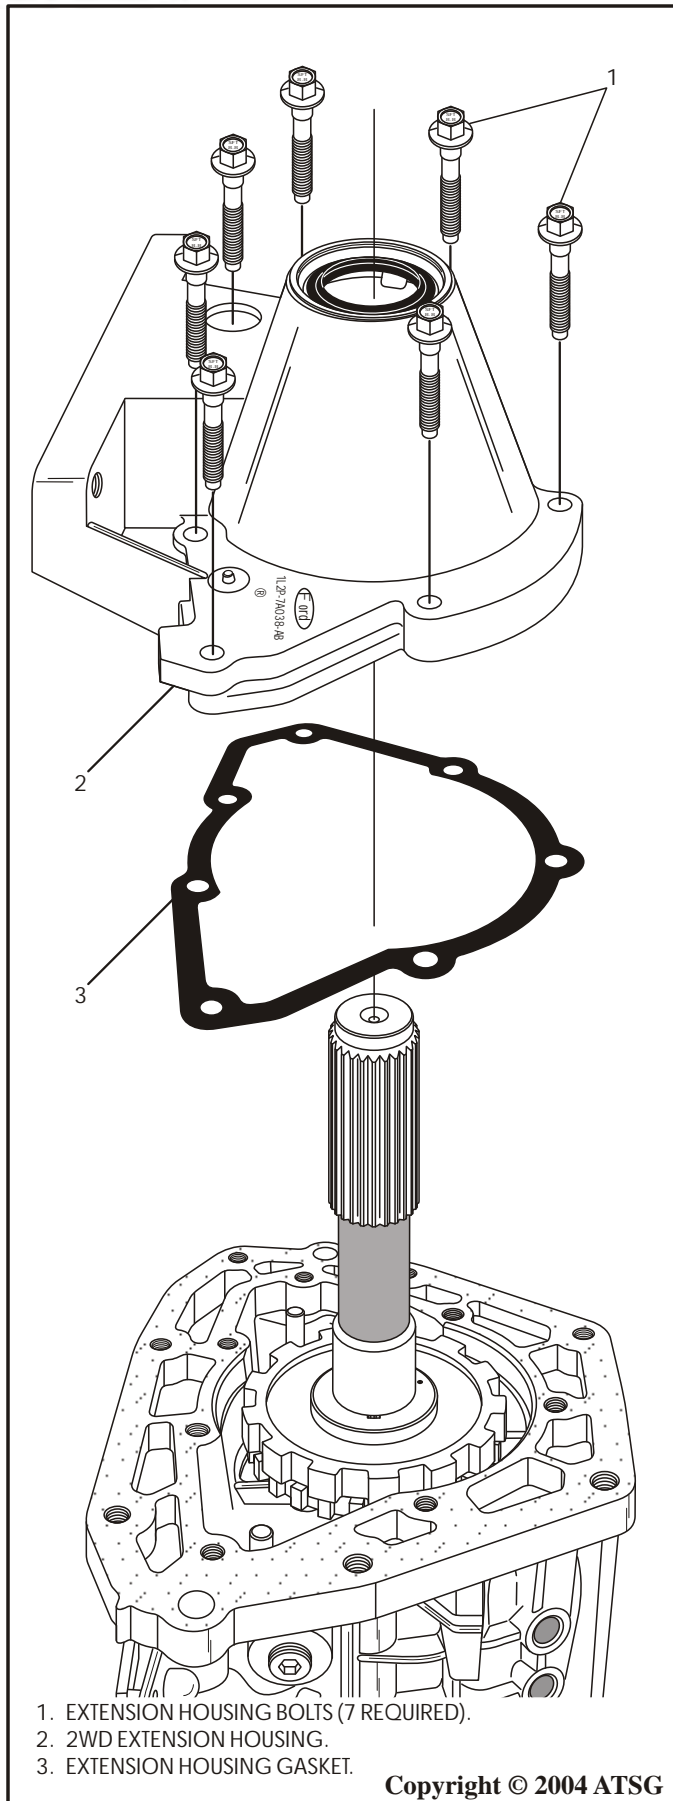

Figure 179
3. Install a new extension housing gasket onto the case, as shown in Figure 179.
4. Install the completed extension housing onto the transmission, as shown in Figure 179.
5. Install the seven extension housing bolts, as shown in Figure 179.